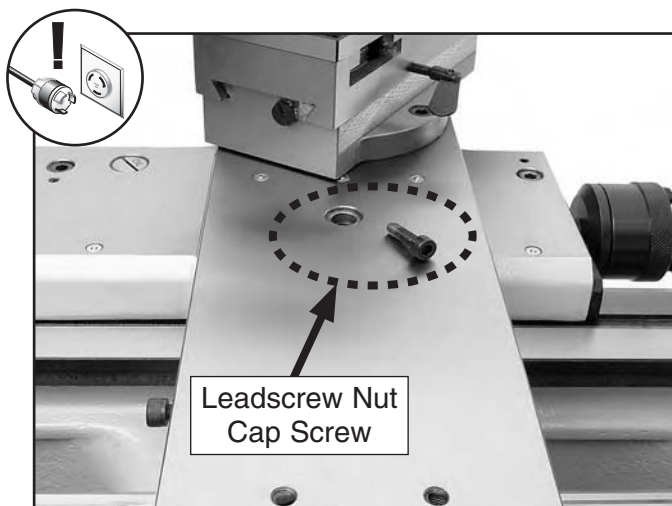

Figure 126. Leadscrew nut cap screw removed.
2. Remove the cap screw from the center of the slide to disengage the leadscrew nut from the slide (see **Figure 126**).